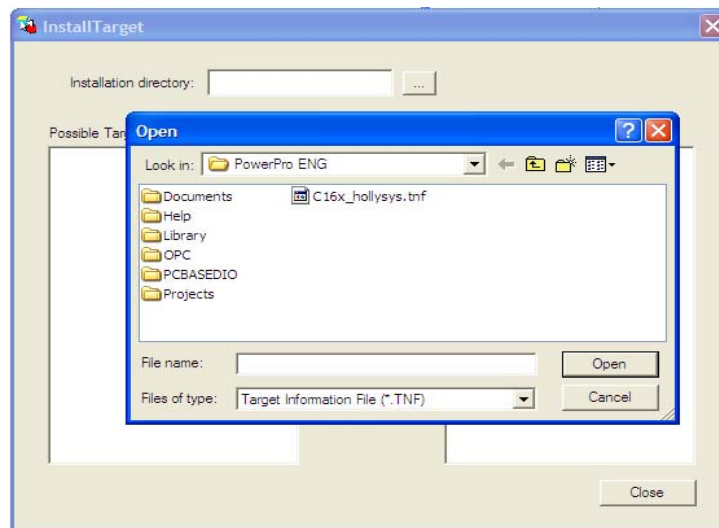

Figure 1-3-2 Install Target (2)
- The window “**InstallTarget**” appears, as shown in figure 1-3-2. Click “**Open.**” button, choose the file “**C16x_hollysys.tnf**” in the pop-up window and click “**Open**”.